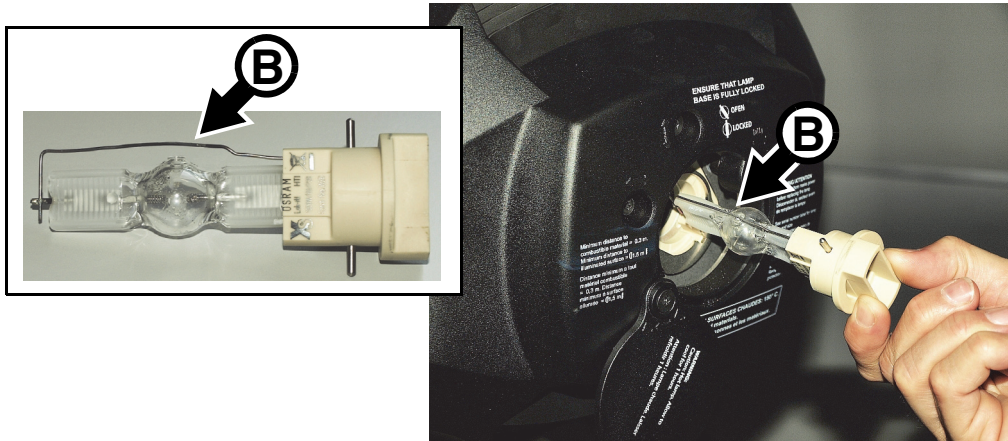
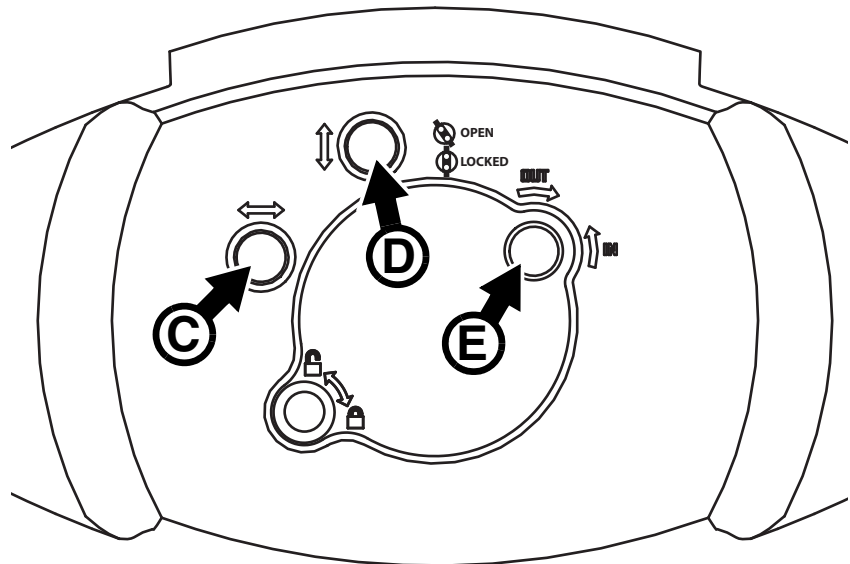

Figure 10: Lamp removal / refitting
Figure 11: Lamp adjustment
6. See Figure 10. Hold the replacement lamp so that the external wire **B** is facing up towards the top of the head (towards the vertical and horizontal alignment screws **C** and **D** in Figure 11) and line up the contacts on the lamp base with the slots in the lampholder. Slide the lamp into the fixture until the contacts are fully inserted in the slots, then twist the lamp base a full 45° clockwise until it locks into position with a noticeable click. The lamp is a stiff fit and trying to strike a lamp that is not correctly installed can cause damage that is not covered by the product warranty, so ensure that the lamp is correctly locked into position.
- See Figure 11. Turn the three Torx 20 lamp adjustment screws **C**, **D** and **E** to minimize any hot-spot and obtain the most even beam.